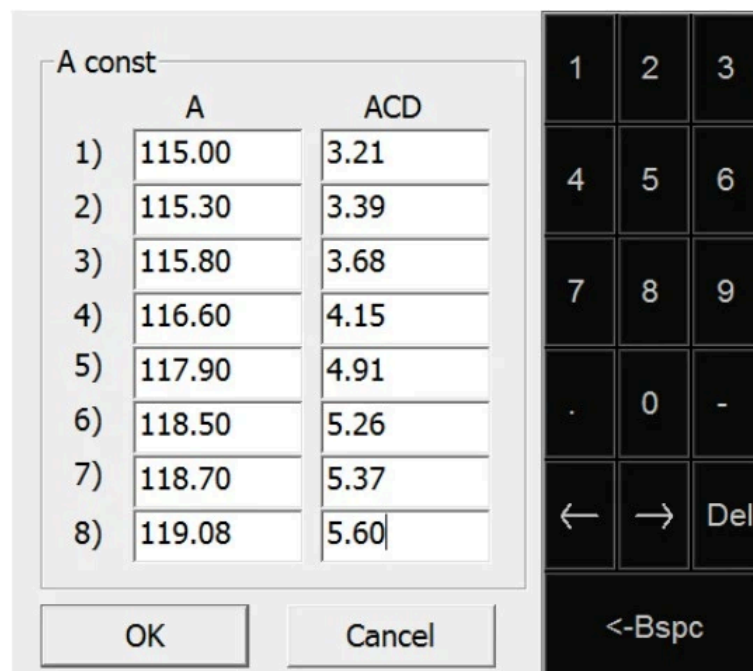

Figure 4-7-3 Dialog Box for Setting Constant A/ACD
- f) Click **A const** to set Constant A or ACD, shown in Figure 4-7-3.